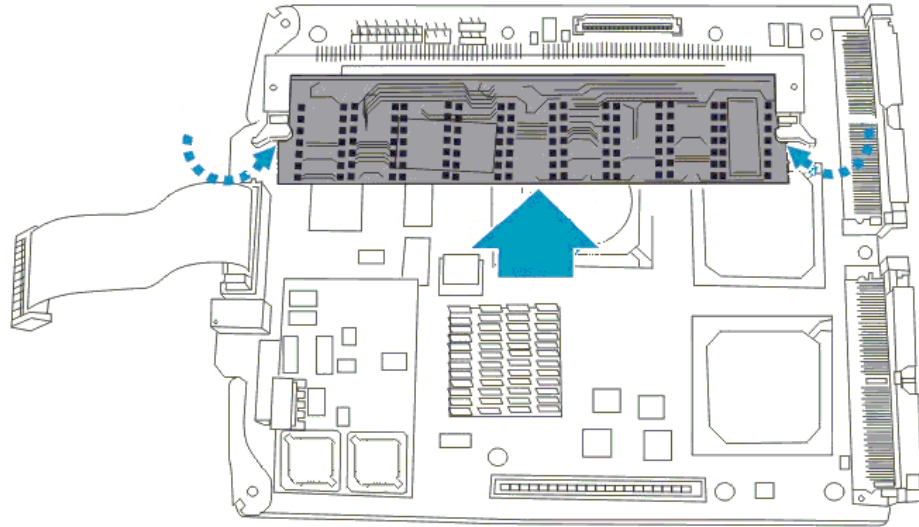

Figure 2-3: Install the DIMM Module
- Step 2.** ***Insert the DIMM Module*** – Once the controller board has been removed, install the DIMM module. To do this, first push the white clips on either side of the DIMM module in an outward direction. Next, align the DIMM module with the DIMM slot. Then, gently push the DIMM module into the slot. The white clips should automatically close and secure the DIMM module into the DIMM slot. See **Figure 2-3**.